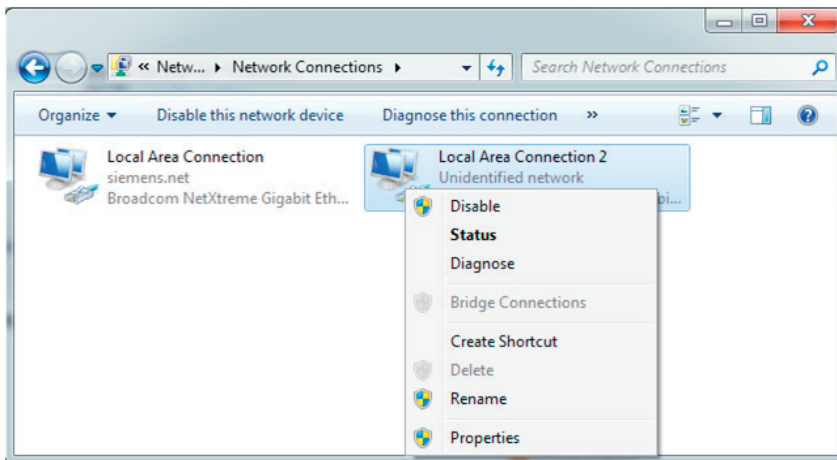

Figure 1
3. On the screen in Figure 1, right click and select properties of the Ethernet adapter, which is connected to the RCU. If you are not sure which Ethernet adapter is connected to the RCU, plug the Ethernet cable out and back in again while the RCU is on. The “Network Cable Unplugged” message will appear on the adapter you have just disconnected.